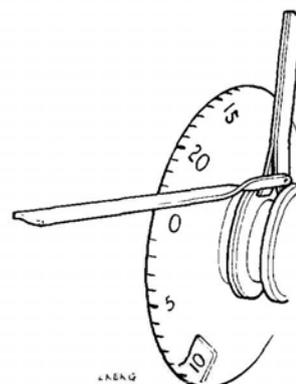

FIG. 9.—MEASURING BRUSH SPRING TENSION
**7. Brush spring tension.**—The tension of each spring on its collector ring should be  $40 \pm 20$  gm (test)  $40 \pm 15$  gm (readjust), measured as near to the tip as possible (see Fig. 9).